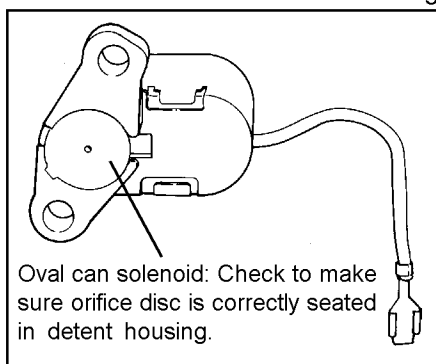

Figure 14
**Oval can solenoid:** Make sure orifice disc is present and properly seated in the casting (**See Fig 14**). If the disc is missing the transmission will be in passing gear all the time. Install solenoid into position along with the new